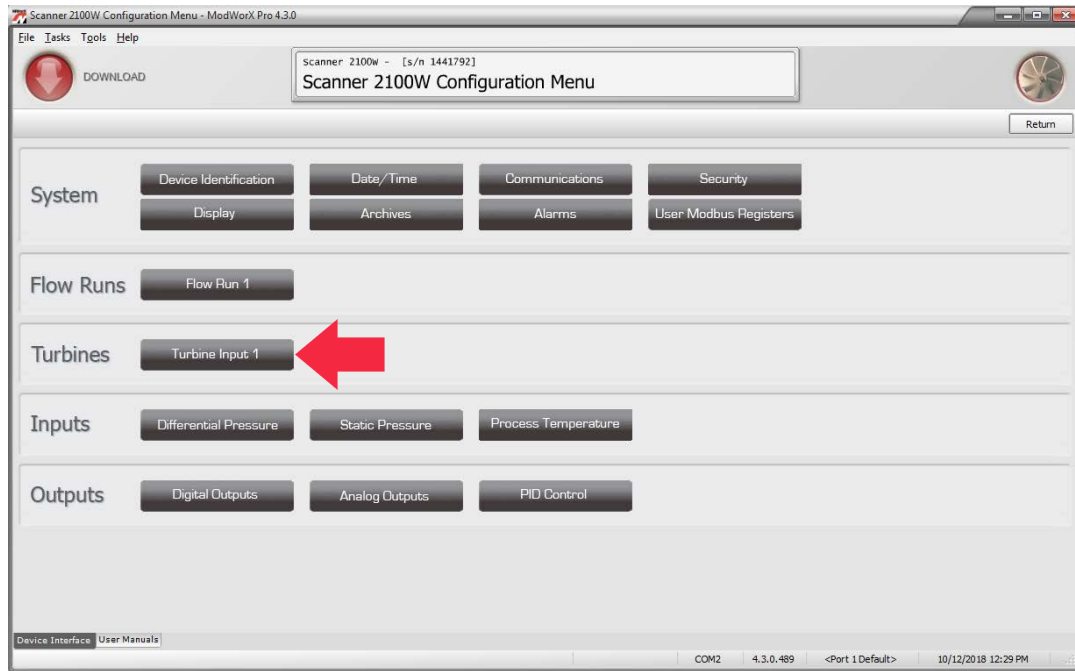

Figure 5.2
- Then, click on **Turbine Input 1** (or **Turbine Input 2**, if applicable) in the Configure screen (Figure 5.2). To configure a pulse input for a Scanner 2000 or Scanner 210x, you must select Turbine Input 2. To configure a pulse input for a Scanner 2200, either Turbine Input 1 or Turbine Input 2 may be used.